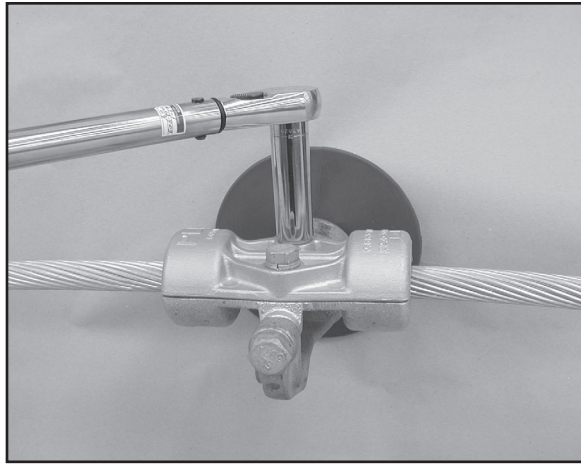

FIGURE 4 - TIGHTEN BOLTS EVENLY
2.04 Re-install the CUSHION-GRIP support keeper to capture the conductor. Evenly tighten the two bolts of the keeper to the specified torque value. (Figure 4 & 5)